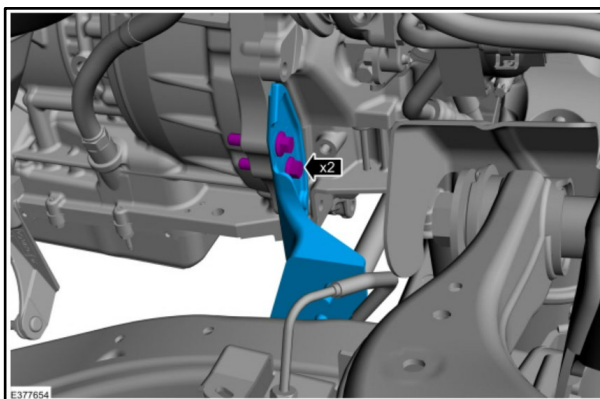

FIGURE 9
9. Remove and replace the 2 DPF front mounting bracket bolts. Finger tighten the bolts before tightening to final torque. Refer figure 9.